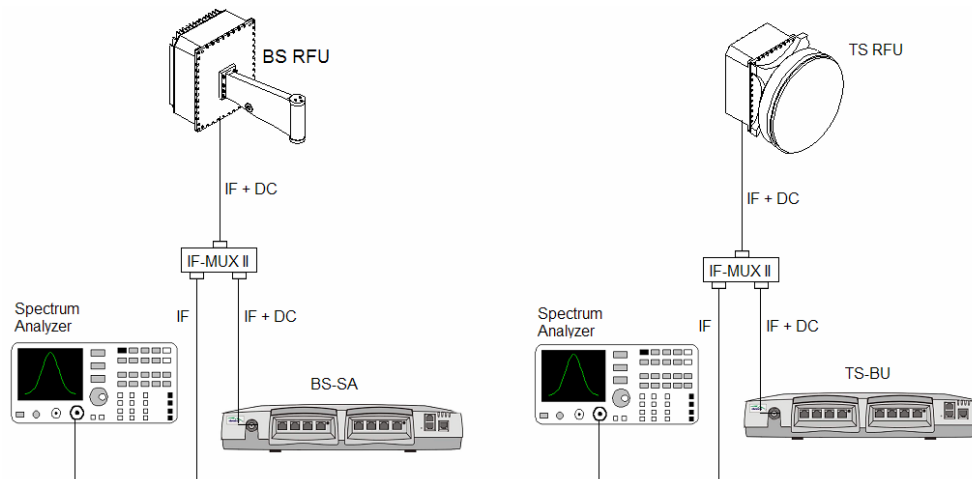

Figure 2-2: IF Survey Setup
Figure 2-2 shows an IF Survey Setup, for a Base Station on the left, and a Terminal Station on the right. The IF Survey must be performed for Base Stations and for Terminal Stations.
1. Set up the equipment as illustrated in Figure 2-2.